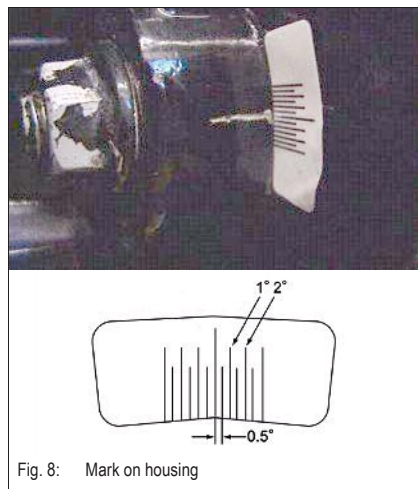

Fig. 8: Mark on housing
- Mark the initial position on the pump and wheel case housing before setting the fuel injection pump – see Fig. 8